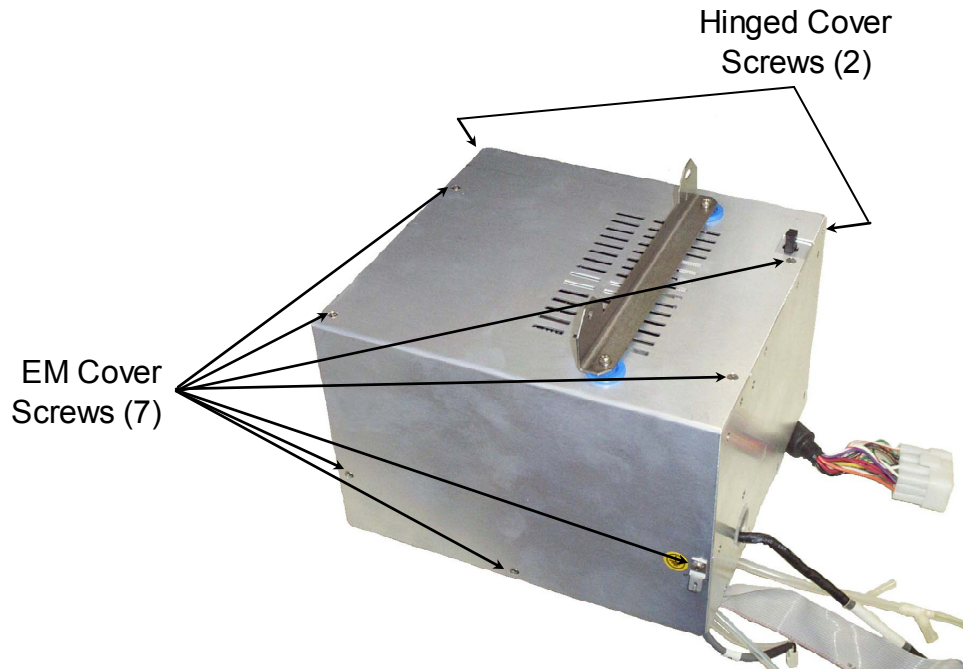

Figure 7-16: EM Cover Screw Locations
- b) Remove the (4) #4 Phillips flat head screws from the top of the electronic module (see Figure 7-16).
- c) Remove the (2) #4 Phillips flathead screws from the left-side of the electronic module.
- d) Remove the (1) #4 Phillips head screw, lock washer and ground tab from the left-side of the electronic module and lift off the cover.
- a) Remove the (4) #4 Phillips flathead screws from the tubing cover located at the bottom of the electronic module and lift off the cover.
- a) Remove the (2) #4 Phillips flathead screws from the front-right-top corner and rear-left-top corner of the electronic module.